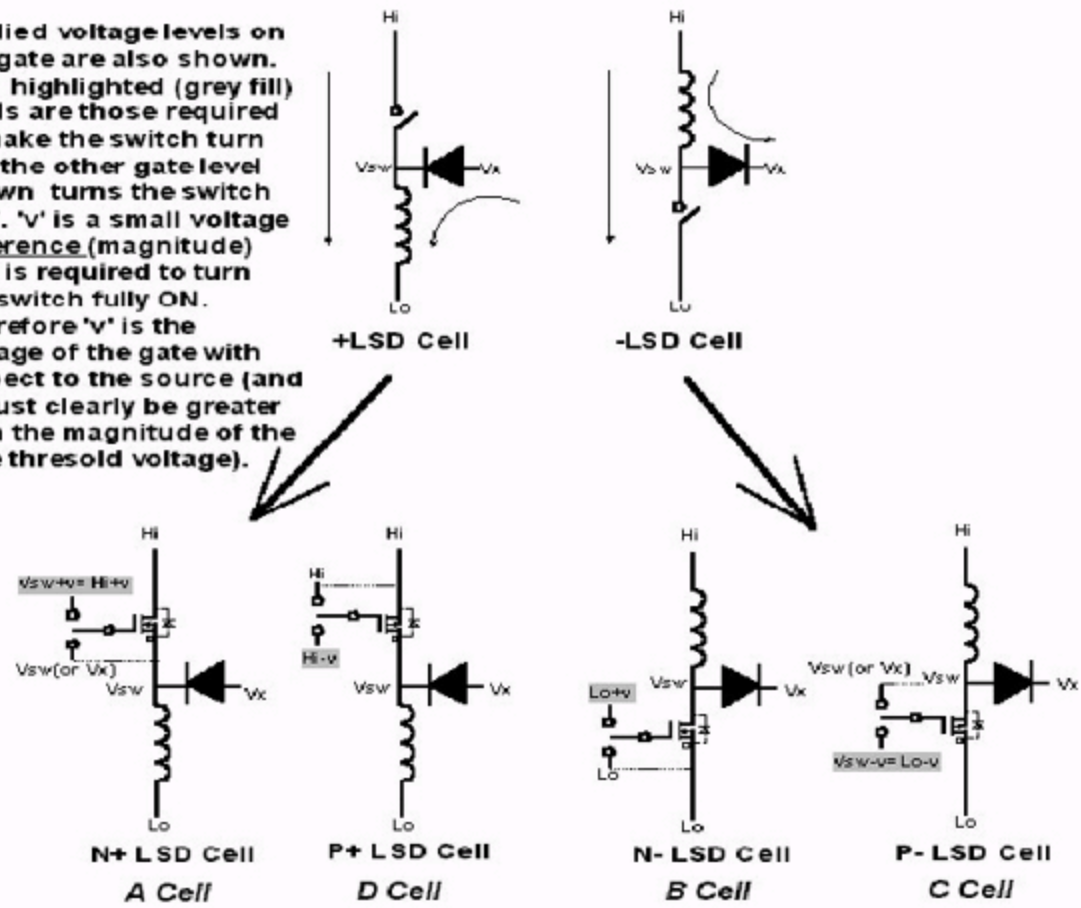
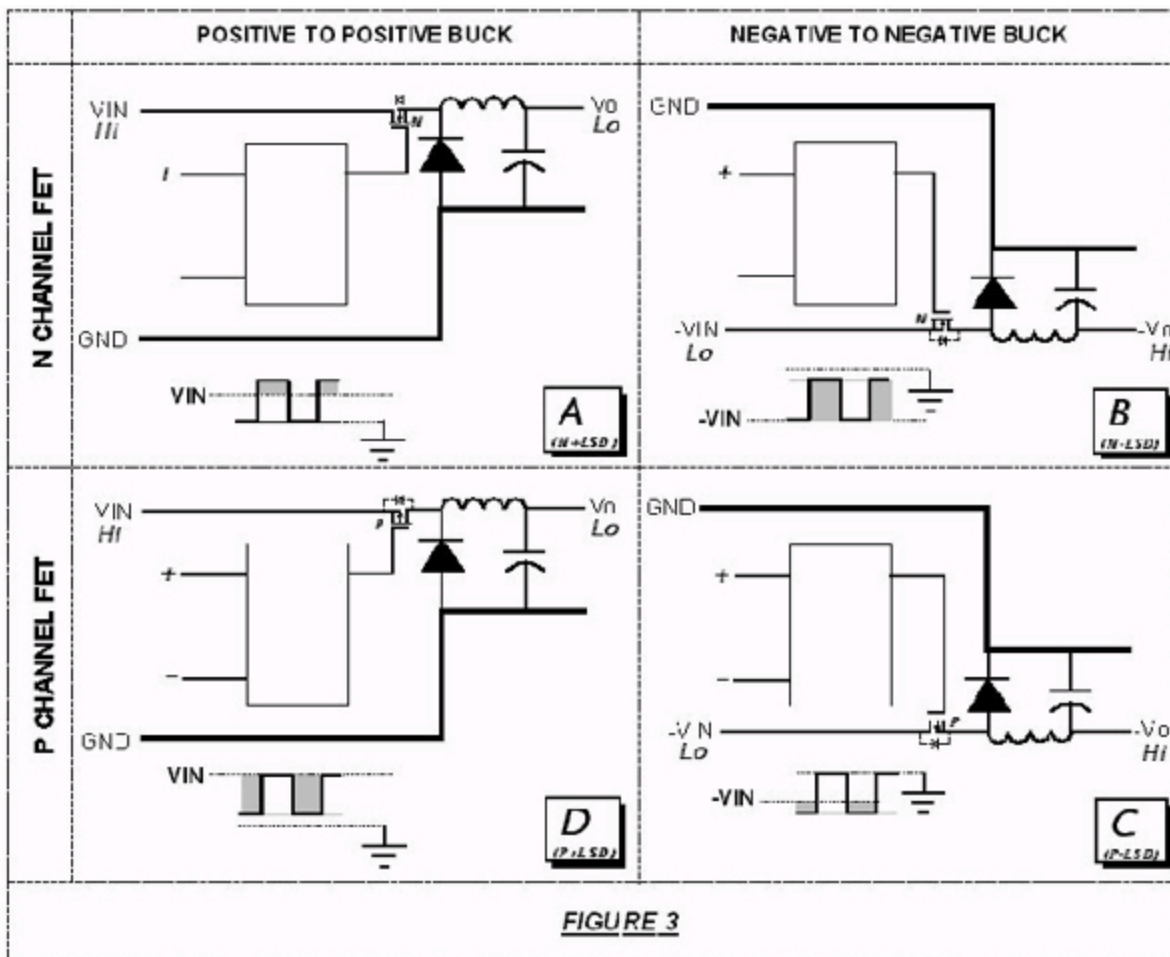

FIGURE 2
FIGURE 3
LSD cell types are shown in Figure 2 (the internal details of the switch are not shown here). When the switch turns OFF the current freewheels through the diode. Therefore the direction of the diode must be as indicated for each case. The 'LSD node' (the common node between the three components) is also called the 'switching node' ('Vsw') as in normal power conversion terminology. Therefore the two main cases are
We introduce the following terminology from Figure 2. We need to do this because when we come to 'configurations' of the topologies we will see that the labeling of the rails keeps changing. The system 'ground' may be re-designated based on the common rail criterion discussed earlier. Therefore it is important to visualize the configurations in which the cells find themselves in, in terms of a higher voltage rail and a lower voltage rail rather than a specific label.
- d) The voltage on the other side of the diode is a DC level in all cases and it is called 'Vx' here. Therefore Vsw will equal Vx during the time the switch turns OFF, because the diode must then conduct. When a diode conducts it can be mentally thought of as 'connecting' its two terminals together. So during the entire switch OFF-time $V_{sw}=V_x$ (ignoring the small forward voltage drop across the diode, and assuming continuous conduction mode). Therefore we can again refer to Figure 2 and notice that it is indicated that one way to turn the switch OFF is to connect the Gate/Base to Vx (rather than to Vsw).
We have four possible configurations for each of the standard topologies. In Figure 3, Figure 4 and Figure 5 we show the possibilities for the Buck, the Boost and the Buck-Boost converters respectively. Note that we can now relate what Hi, Lo, Vsw, Vx levels really refer to in the schematic, in terms of actual circuit labels for the rails. The gate drive levels are also shown. As in Figure 2, the highlighted areas of the gate drive (gray fill) are where the FET is ON. Otherwise it is OFF. It is also indicated whether they belong to Types A, B, C or D, as defined previously.
In Figure 7 we perform 'inversion' on a N+ Buck circuit (type A) and show that it leads directly to a P- Buck circuit (type C). If it is not so obvious, we can flip the circuit vertically ('reflection') to put it in line with our declared goal of visualizing all circuits with higher input voltage rails on the top side of the page and lower voltage rails on the lower side. Comparing it with Figure 3 we will see that indeed we have generated not only the P- circuit but also the required gate drive levels.